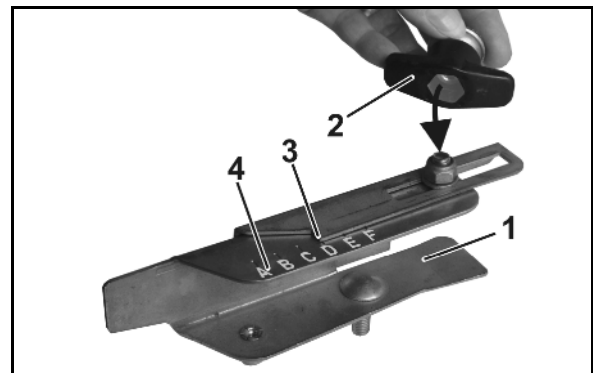

Fig. 83
5. Install the border spreading vane (Fig. 83/1) on the spreading disc using the thumb nut (Fig. 83/2).
6. Set the read-off edge (Fig. 83/3) to the number on the scale (Fig. 83/4) according to the setting chart and retighten the thumb nut (Fig. 83/2).